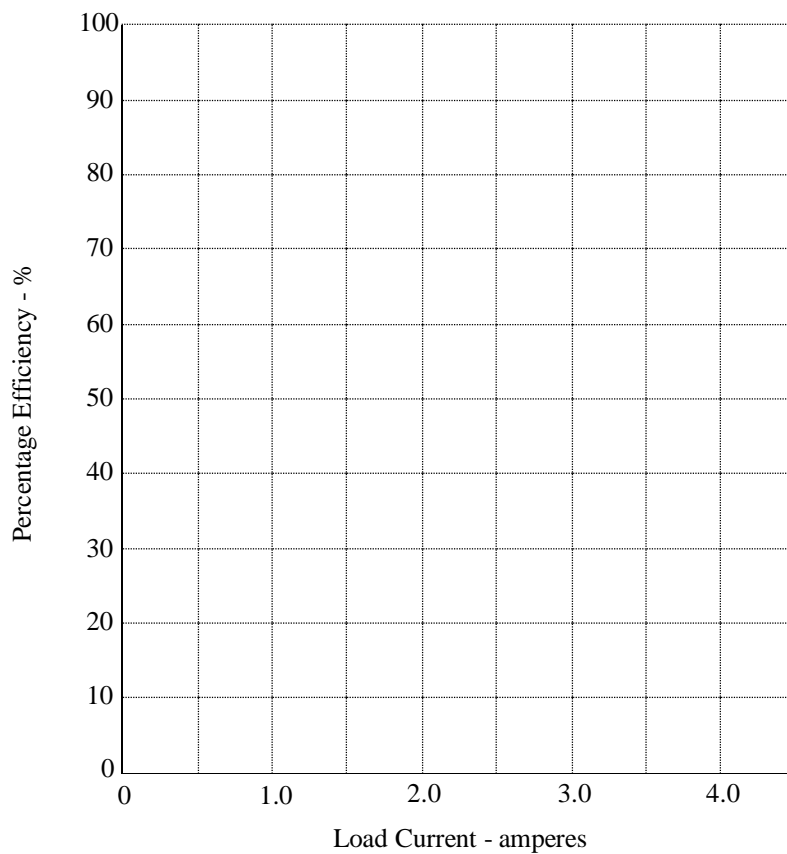

Figure 4
10. On the axis shown in figure 4, plot the efficiency curve for the transformer tested.